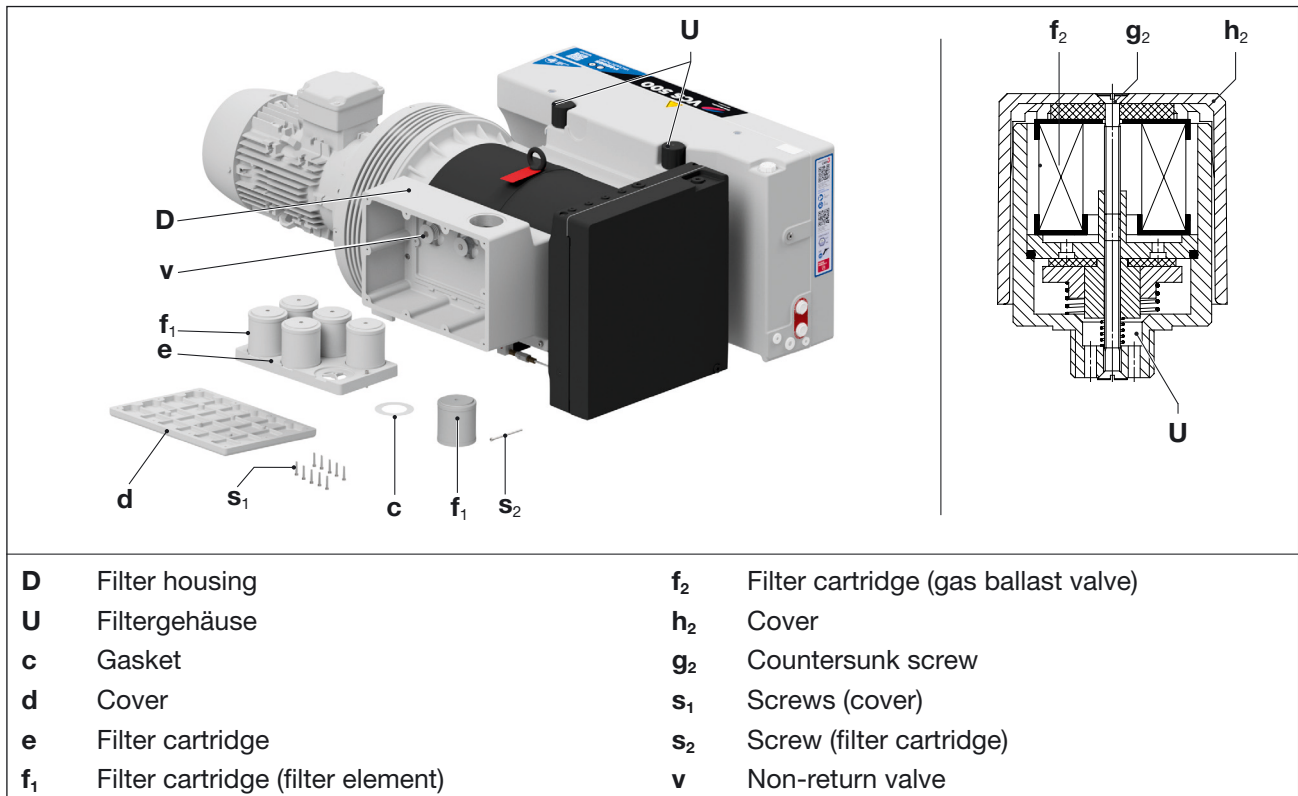

Fig. 8 Air filter and gas ballast valve
The filter cartridges (Fig. 8/f1) must be cleaned monthly or more often by blowing off, depending on the contamination of the extracted medium. Despite cleaning the filters, their separation efficiency will increasingly deteriorate. Therefore, the filters should be replaced every six months.
- c) Loosen the screws (Fig. 8/s1) on the cover (Fig. 8/d) of the filter housing (Fig. 8/D) and remove the cover.
- d) Remove the filter cartridge (Fig. 8/e).
- e) Loosen the screw (fig. 8/s2) on the filter cartridge (fig. 8/f1) and remove the filter cartridge with seal (fig. 8/c) from the filter insert (fig. 8/e). Repeat for all cartridges.
- g) Clean the filter housing (Fig. 8/D).
- h) Check the non-return flap (Fig. 8/v) for contamination and clean if necessary.
- i) Put on the filter cartridges (Fig. 8/f1) together with a gasket (Fig. 8/c) on the filter insert.
- j) Put the filter insert (Fig. 8/f) back into the filter housing (Fig. 8/D) and fix the cover (Fig. 8/d) with the screws (Fig. 8/s1).
The pumps work with a gas ballast valve (Fig. 8/U). The inbuilt filter disc (Fig. 8/f2) and micro filter discs (Fig. 6/f3) must be cleaned more or less often depending on how dirty the medium flowing through.
- a) Unscrew the gas ballast valve (Fig. 8/U) from the pump.
- b) Loosen the countersunk screw (Fig. 8/g2) on the plastic bonnet (Fig. 8/h2) and remove the plastic bonnet (Fig. 8/h2).
- c) Remove all filter parts for cleaning and clean or replace the filter cartridge (Fig. 8/f2) by blowing it out.
- d) Insert the filter cartridge (fig. 8/f2) into the valve, put on the plastic cover (fig. 8/h2) and fasten it with the countersunk screw (fig. 8/g2). Tighten the screw hand-tight.